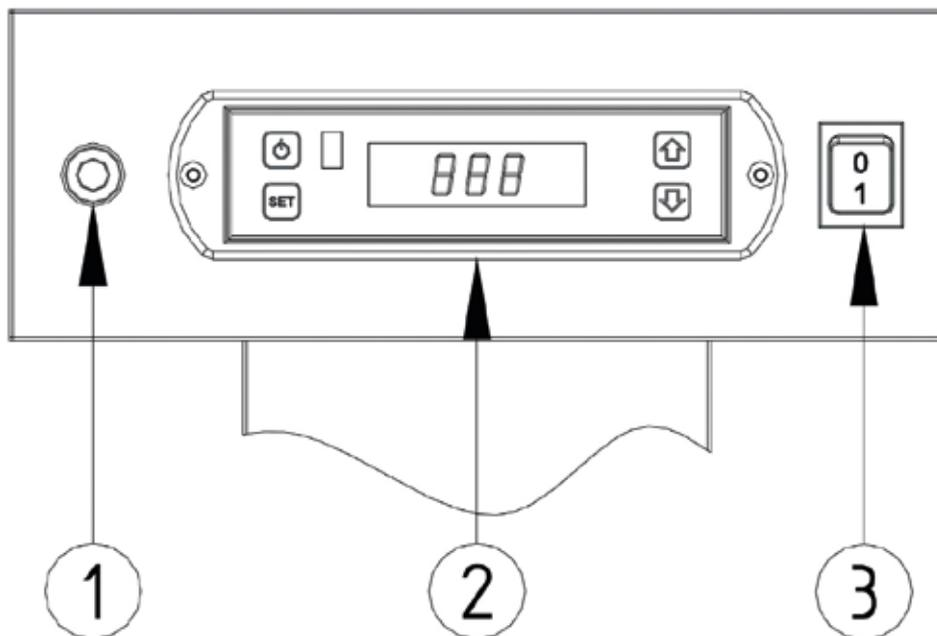

Fig. 11 Control Panel
4. Start up the burner by pressing the ON/OFF no.1 button for 4 seconds (see fig. 11);
After pressing the ON/OFF no. 1 button, for 4 seconds (see fig. 11), the burner will immediately enter the switching off phase, stopping the supply of pellets.
Press the ON/OFF no. 1 button, for 4 seconds (see fig. 11), to start up the device, which will happen after 4-5 minutes.